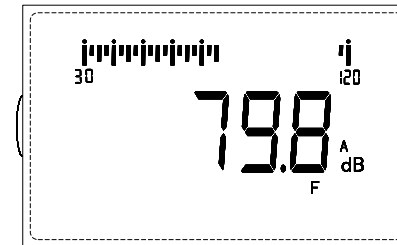

Fig. 5
1) Press the **WEIGHTING** key to make the display shows ‘C’, and the value displayed on the LCD is the measured value of ‘C’ sound level. Press the weighting key to make the display shows ‘Lin’, and the value displayed on the LCD is the measured value of ‘linear sound level’. See Fig. 5.
3) There are 3 kinds of time weightings, Fast (F), Slow (S) and Impulse (I). Generally Fast ‘F’ is used. If the reading changes greatly, Slow ‘S’ can be used. Impulse (I) measurement is used for special requirements. As shown in Fig. 5.